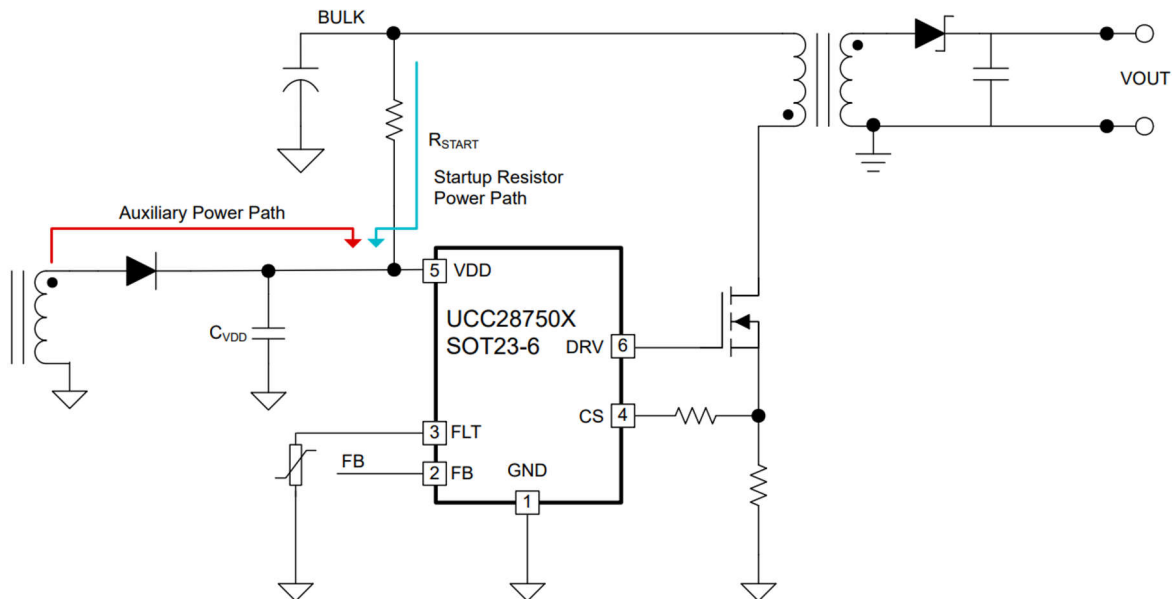
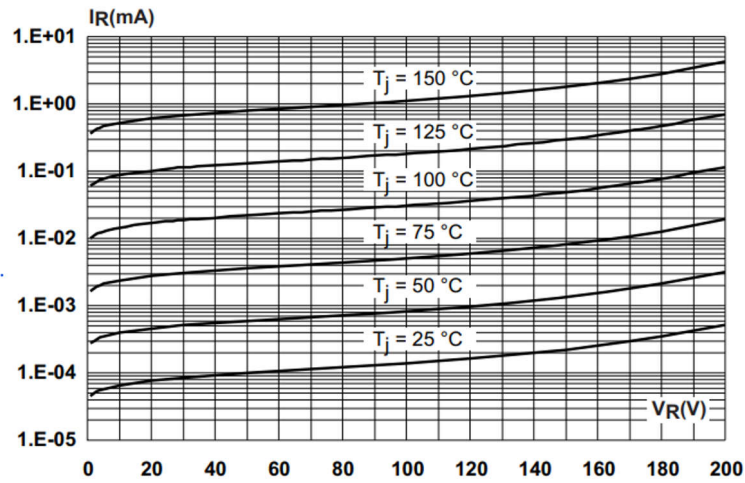

Figure 5-1. VDD Charging Path
Figure 5-2. Diode Reverse Current
1. The VDD pin is typically powered through a resistor network connected to the rectified bulk voltage and later an auxiliary winding in an AC/DC flyback application, and the charging path as Figure 5-1 showing. However, the resistor brings extra power consumption then impacts the no load power consumption, so the resistance is up to M Ω , but the side effect is that the charger current is smaller then impacts the startup time. The diode at auxiliary power path has reverse current, and the reverse current increased up to 1000 times at high ambient temperature as Figure 5-2 showing, and the reverse current can also limit the charge current from resistor power path, so customer sometimes faces that the VDD can't be charged up to startup point during burn in testing, then controller can't start switching.